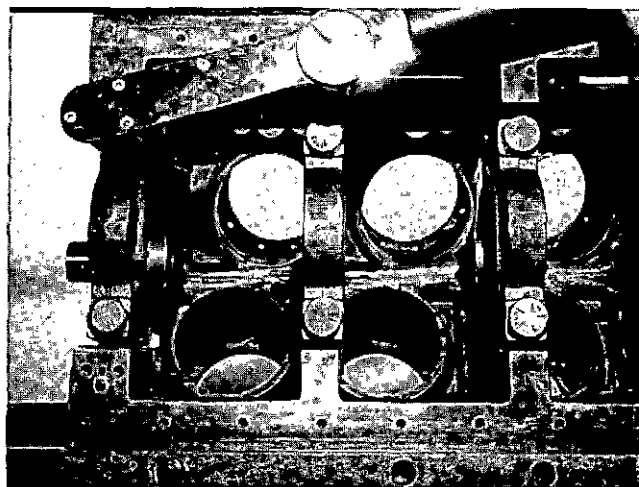

Fig. 1-1-10, V40126. Tightening main bearing capscrews
1. Assemble main bearing caps, lockplates and capscrews to block in operating position. Fig. 1-1-10. Tighten capscrews to operating tension; see "Parts Replacement and Repair."